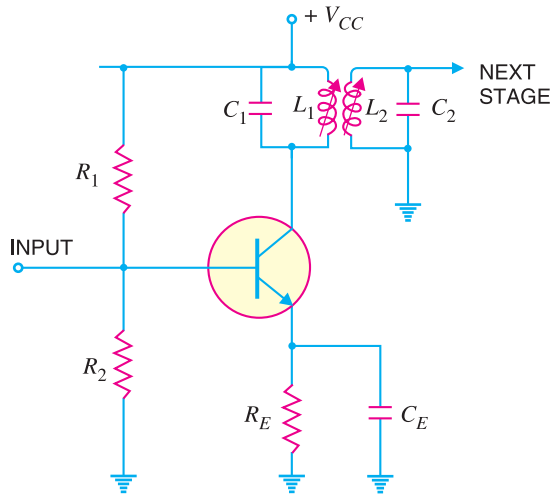

Fig. 15.15
Double tuned amplifiers are used for amplifying radio-frequency (RF) signals. One such application is in the radio receiver as shown in Fig. 15.15. This is the IF stage using double tuned resonant circuits. Each resonant circuit is tuned to *455 kHz. The critical coupling occurs when the coefficient of coupling is